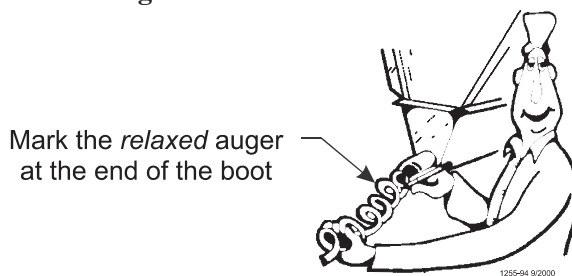

Figure 32. Measure Auger from Relaxed Position
10. Pull the auger at the boot end until it begins stretching. Then let it relax. In the *relaxed* position, mark the auger at the end of the boot. See **Figure 32**.